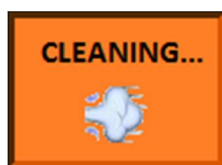

Fig. 8
C) Key for activating the “end of day cleaning” function: press this button to activate the procedure (Fig.8). During the procedure, the hydraulic motor is powered and the air jets for cleaning the ploughshare are activated in sequence (Cleanermatic).